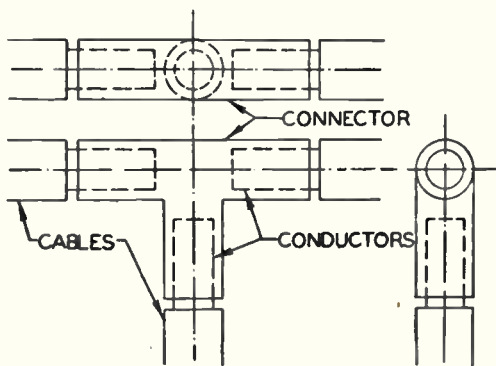

Fig. 6-13
- CC-T Tee type three-way cable connector. Fig. 6-13